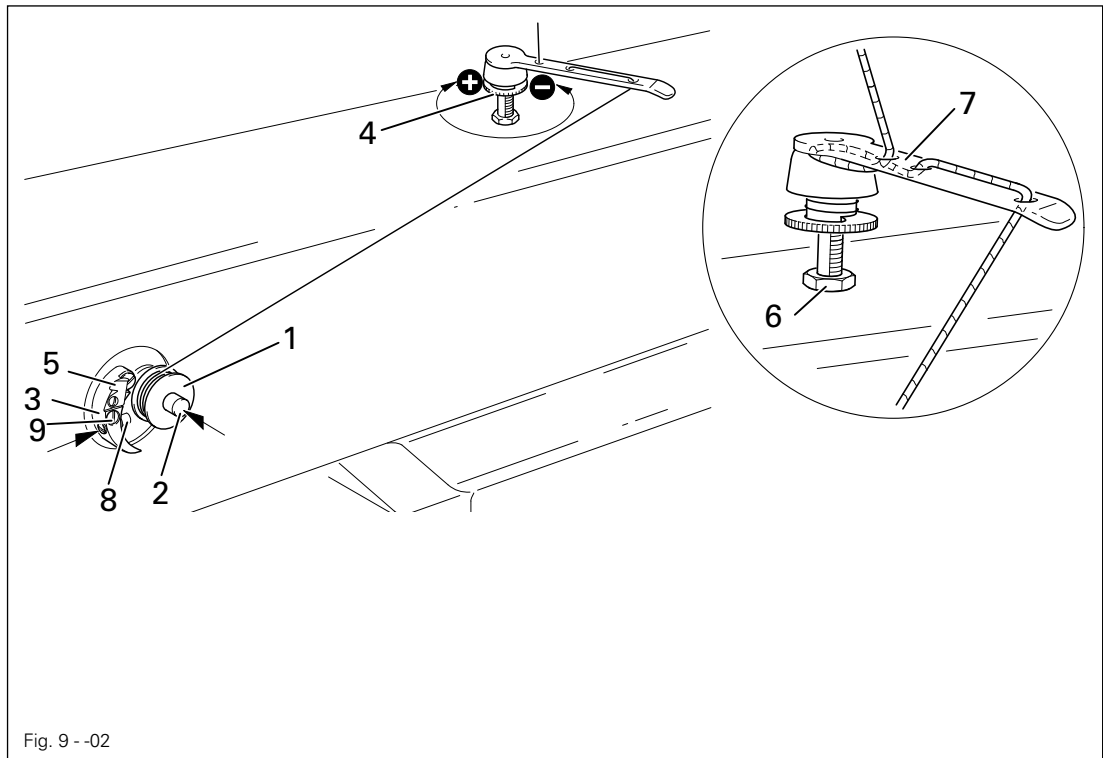

Fig. 9 - 02
- Thread in the thread as shown in Fig. 9 - 02 and wind it round the bobbin 1 a few times in an anti-clockwise direction.